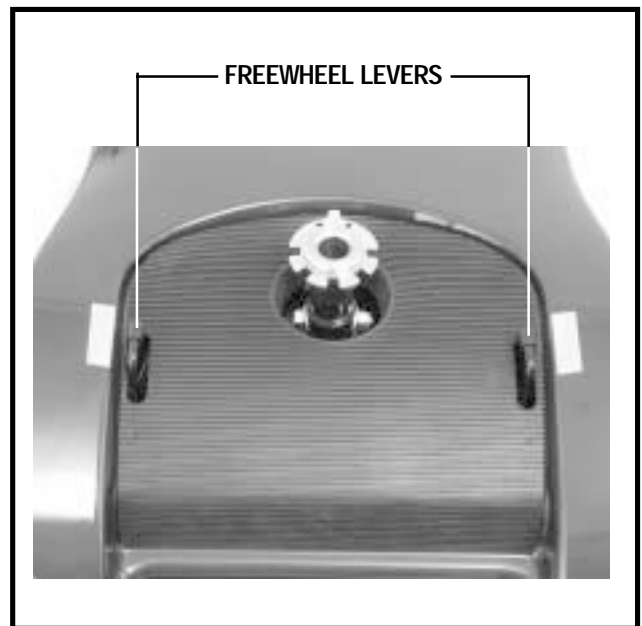

Figure 8. Drive Engaged
The electronics tray is located on the back of the power base. See figure 8. The ammeter, the charger power cord receptacle, the main circuit breaker, the controller connector, and the charger inhibit connector are all located on the electronics tray.
2. Turn the freewheel levers rearward to engage the drive motors. See figure 8.